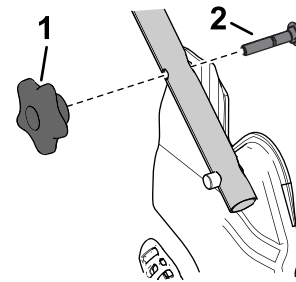

Figure 16
1. Remove and save the 2 handle knobs and 2 carriage bolts from the handle brackets (Figure 16).